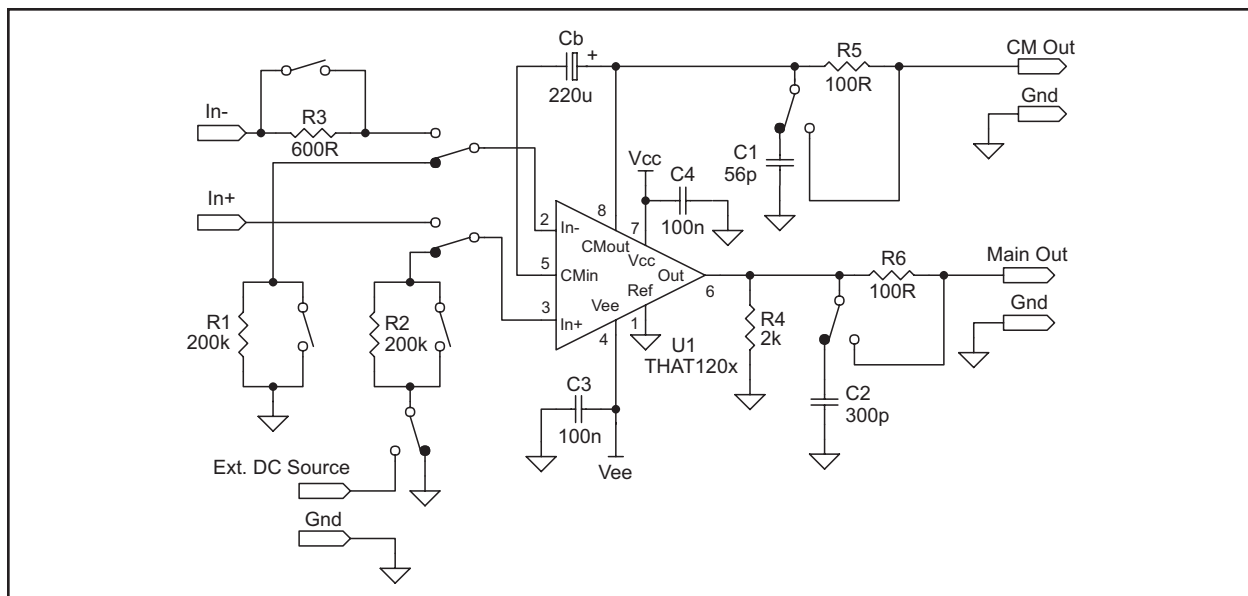

Figure 2. THAT1200-series test circuit
3. See test circuit in Figure 2.